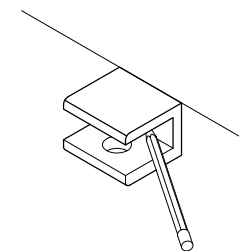

Fig. 2
2. Position your brackets 1-1/2" to 2" from each edge, as recommended. Mark their locations (fig 2).